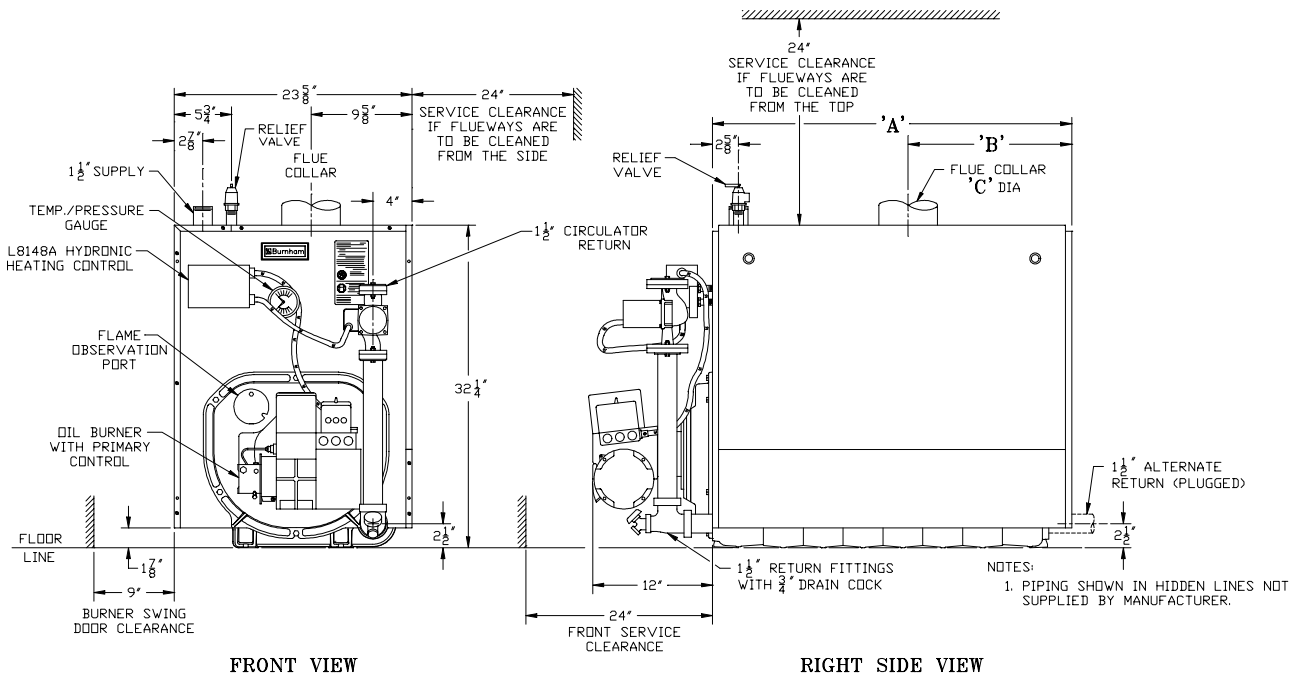

Figure 1A: V72 thru V79 Water Boiler Without Tankless Heater (WB)
TABLE 1: DIMENSIONAL DATA (SEE FIGURES 1A THRU 1E)
2. ANY CLAIMS for damage or shortage in shipment must be filed immediately against the carrier by the consignee. No claims for variances from, or shortage in orders, will be allowed by the manufacturer unless presented within sixty (60) days after receipt of goods.
B. LOCATE BOILER in front of final position before removing crate. See Figures 1A thru 1E.